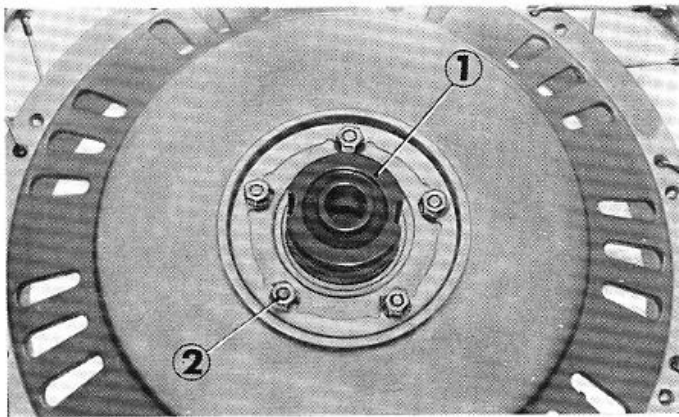

Fig. 4-19 ① Final driven shaft
5. Remove five 6 mm nuts and the 50 mm thrust washer A, and the final driven shaft can be disassembled together. (Fig. 4-19)